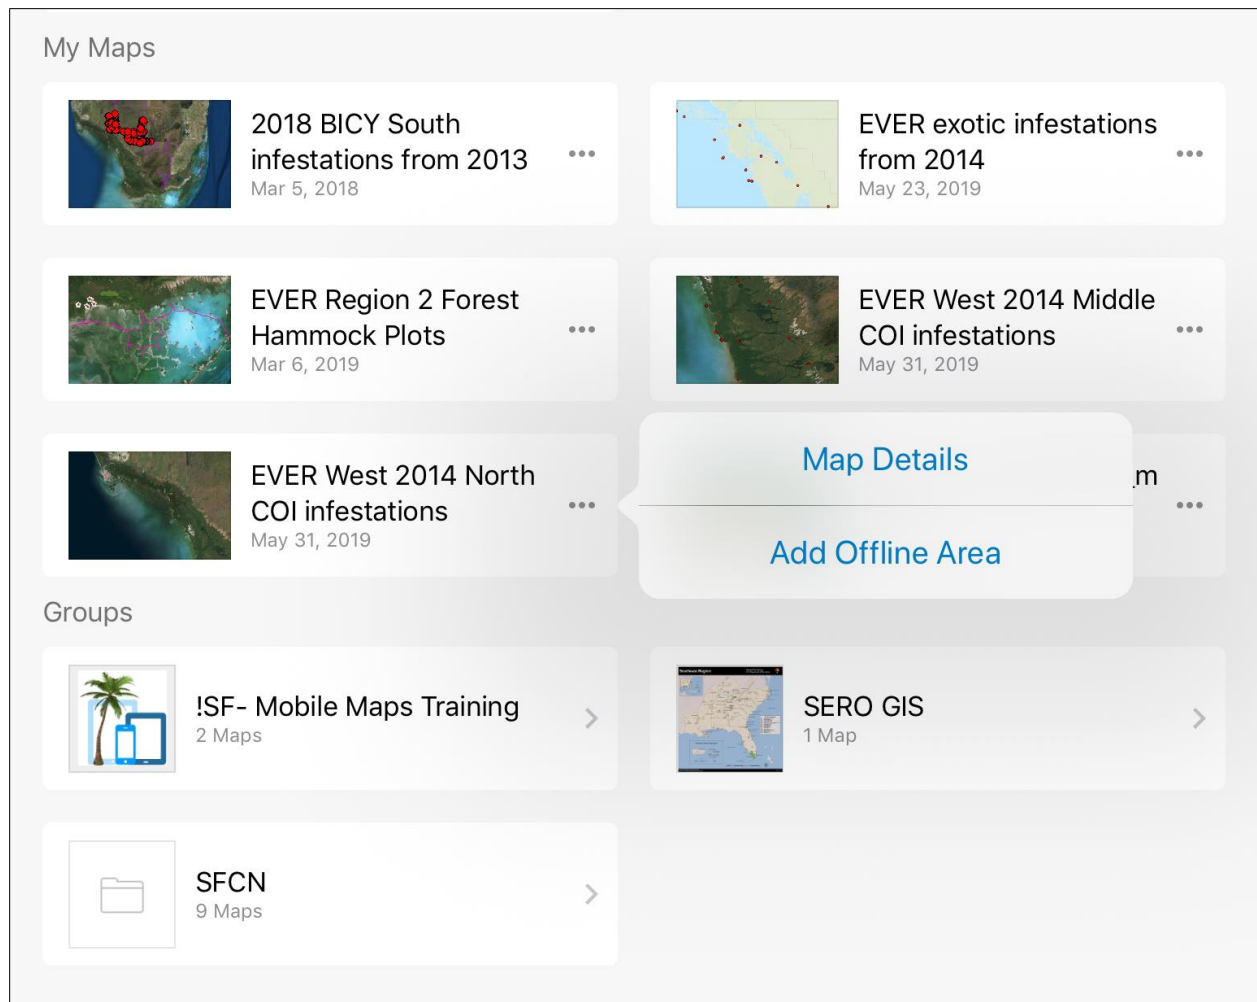

Figure 9. The Add Offline Area screen on the Collector for ArcGIS app is used to pan and zoom to define the area of the offline map.
5. The next screen to appear should be the Maps page (Figure 9). Under the ‘My Maps’ section, find the map product that was created in ArcMap or ArcGIS Pro and published to ArcGIS Online. This map displays aerial imagery and the infestation areas from the previous survey year. Then press the “More Options” or ellipsis icon (three horizontal dots). A new option box should appear. Select ‘Add Offline Area.’